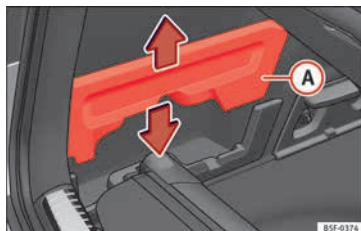

Fig. 163 In the luggage compartment: housing for storing the rear shelf.
- Remove covers » **Fig. 163** **A** left and right.